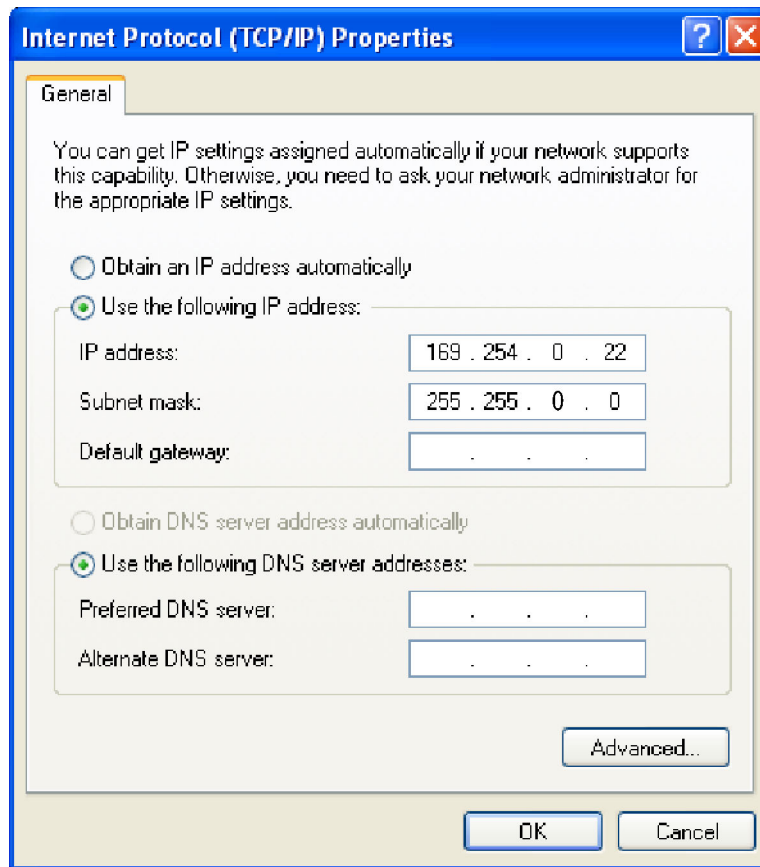

Figure 9: IP Properties dialog box
3. Scroll down the list and select **Internet Protocol (TCP/IP)**; and then click **Properties**. The Internet Protocol (TCP/IP) Properties dialog appears. (See Figure 9.)